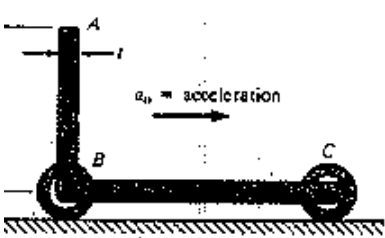

Fig. 1
- (1) A frame ABC travels horizontally with an acceleration a_0 (see Fig. 1). Obtain a formula for the maximum stress σ_{\max} in the vertical arm AB, which has length L , thickness t , and mass density ρ . (7%)